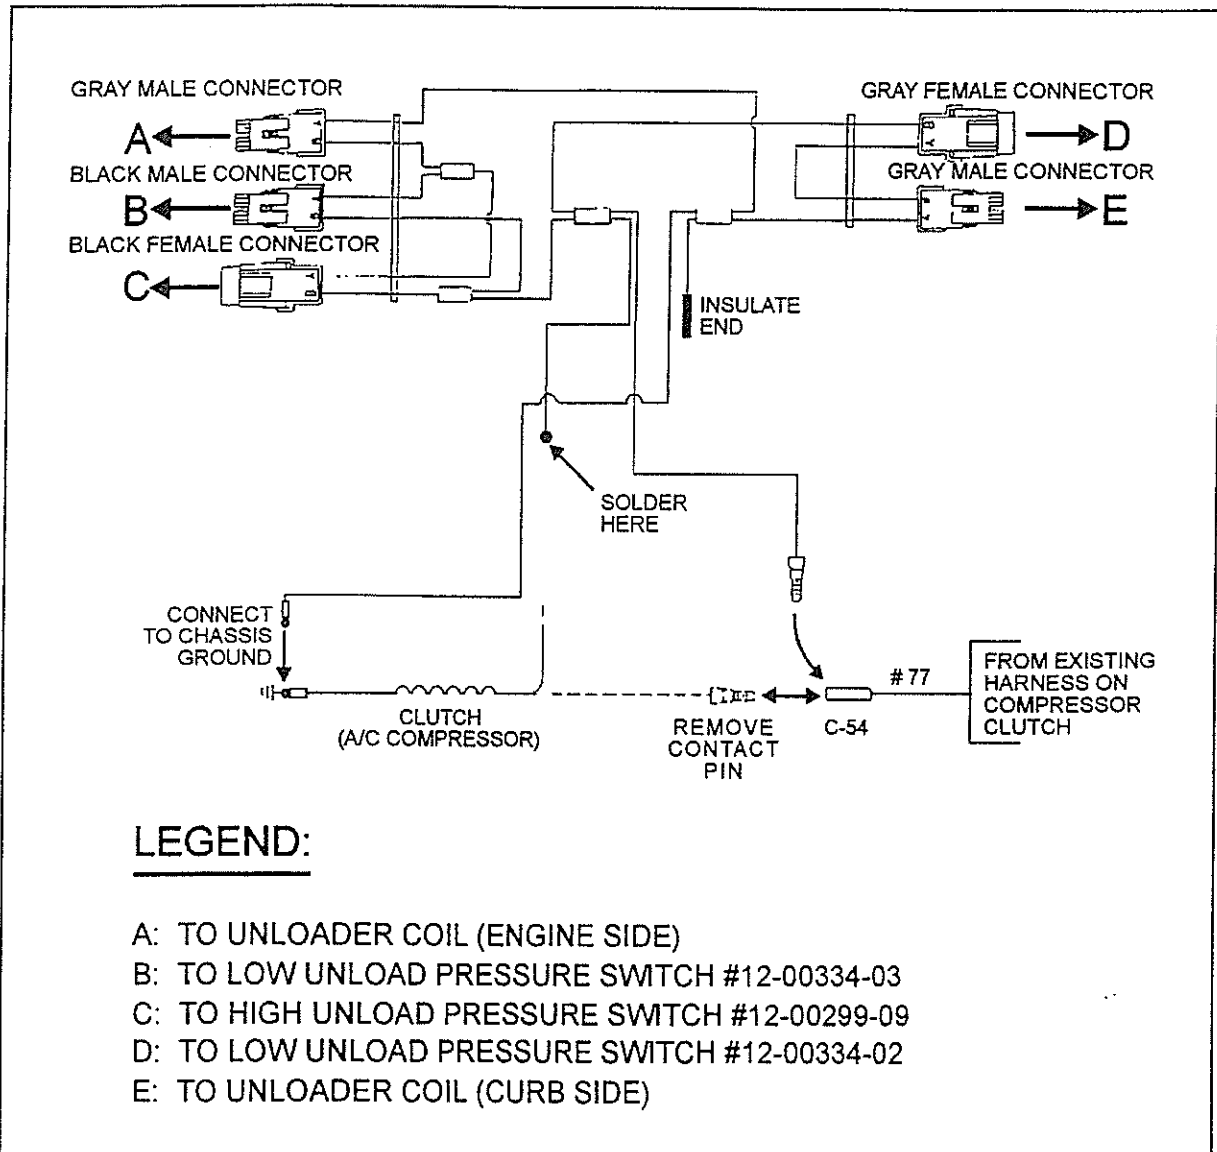

Fig. 4 - Wiring Harness #95-0250 Installation
12. Remove male contact pin from the end of A/C compressor clutch hot wire (disconnected at previous step), strip extremity then solder to the loose wire coming from the same splice as wire connected at the previous step (see fig. 4).
15. Connect wiring harness connectors to pressure switches as shown in wiring diagram of figure 4.